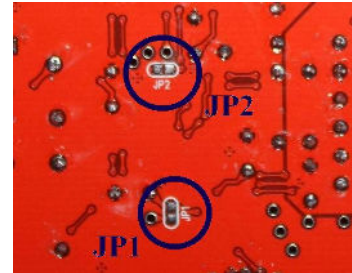

Fig. 4
- 1) Close the jumpers JP1 and JP2 (see Fig. 4) on the bottom side of DSO138 board with solder. This will make the MCU enter bootloader instead of the main firmware at next power up.